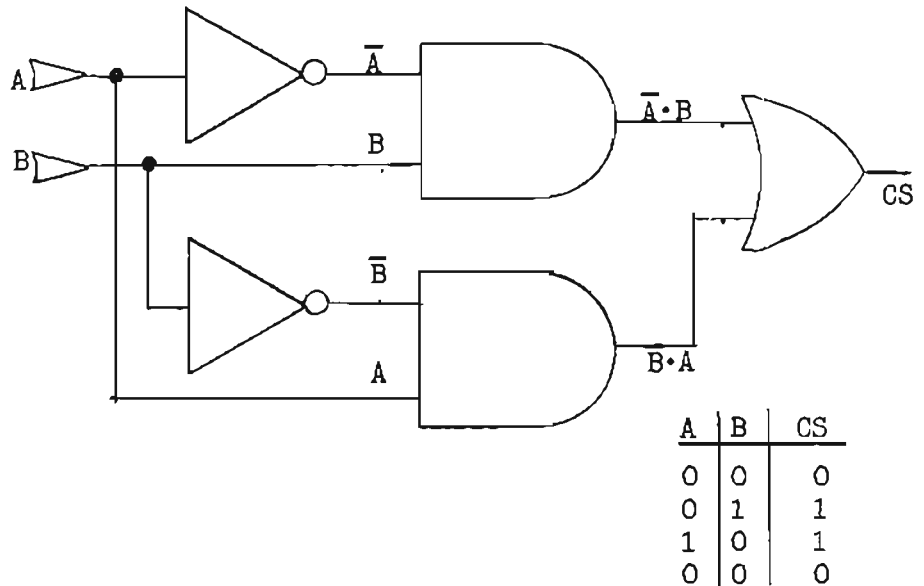

Figure 10: Truth Table and logic circuit for $A \cdot B + \bar{A} \cdot \bar{B} = CS$
One other design study will illustrate several points. Suppose we require a logic 0 signal on a chip select pin when either of two other signals, call them A and B, are either both logic 0 or both logic 1. When A and B have opposite logic levels our chip select must be 1. This is clearly an artificial situation which originated in my mind and not in a computer interface circuit, but it illustrates a point. The truth table which fits the description demanded by the design is shown in Figure 10. Following the steps outlined earlier we find that the Boolean equation which implements the truth table is
the value of CS is the value of the least significant digit in the binary sum of A and B. Thus equation (5) is also part of an adding circuit. If A and B are AND'ED the correct value for the "carry" part of the binary addition is also produced. Together these circuits form what is a "half adder." Figure 10 also gives the logic symbol implementation of equation (5).